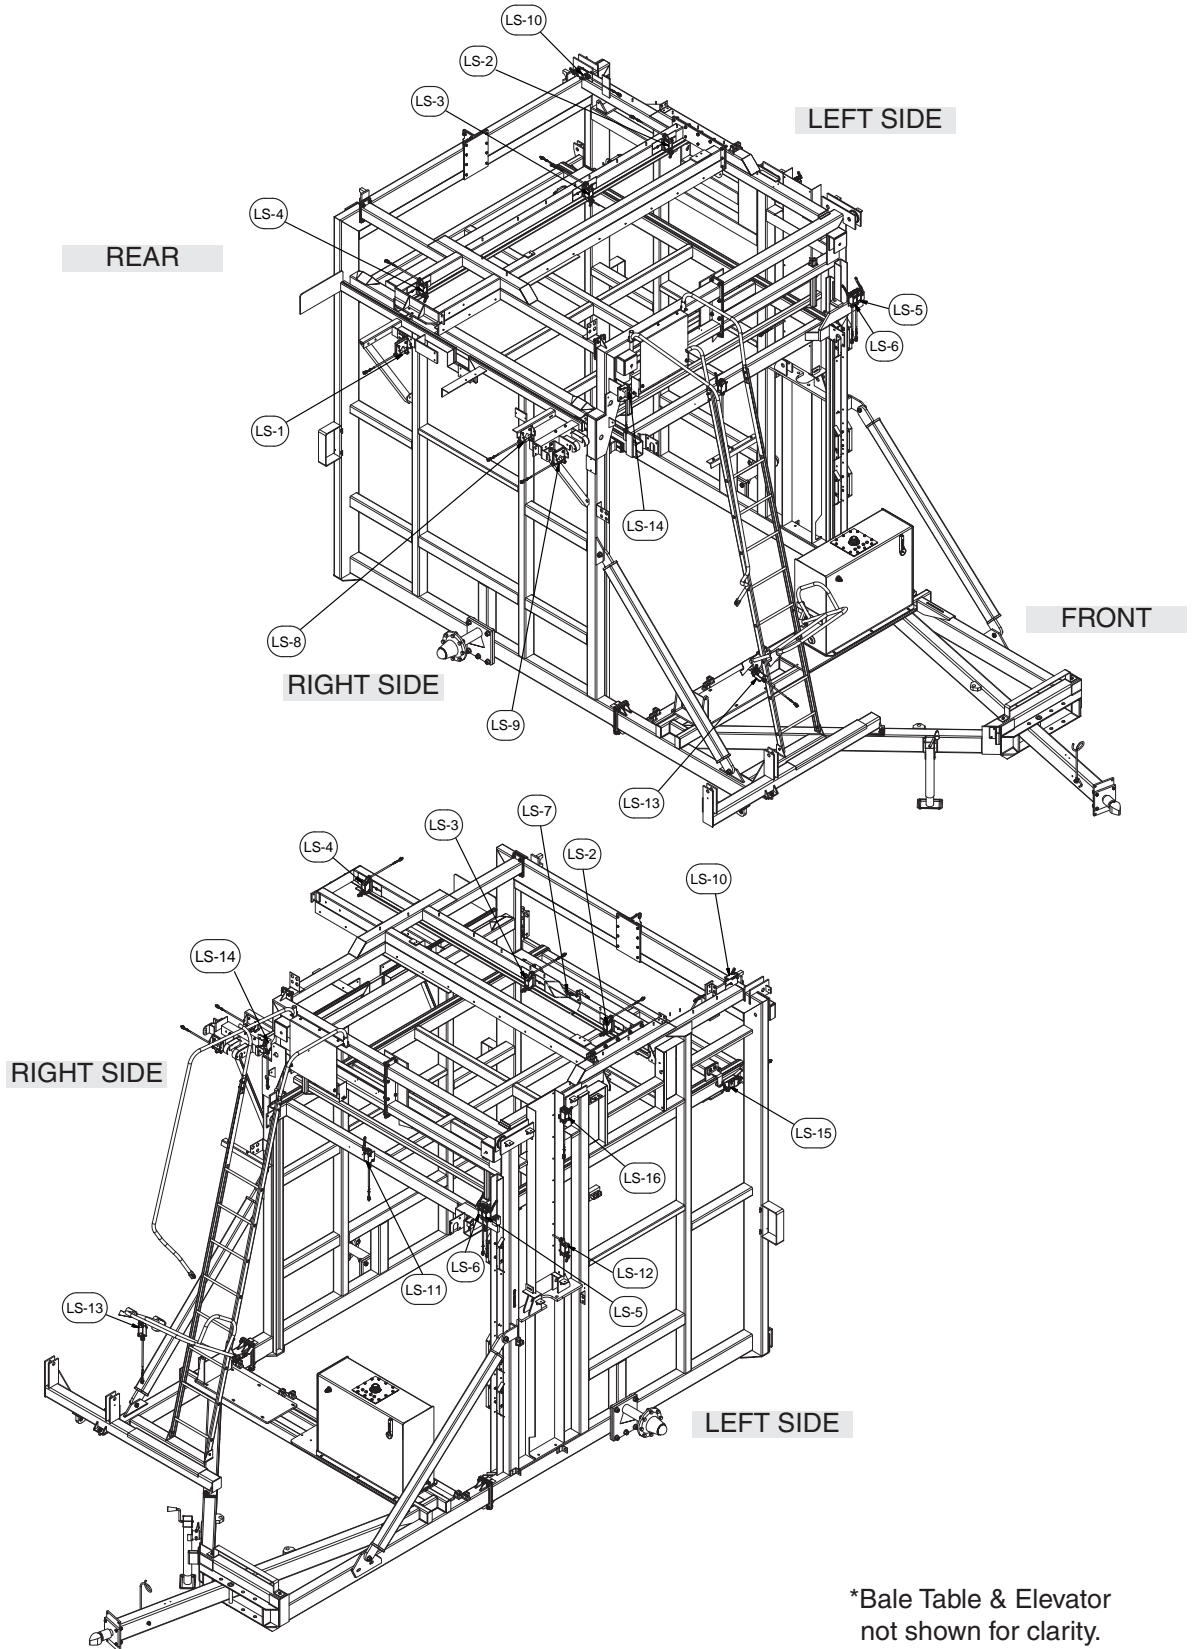

Figure 14 - Limit Switch Locations
**NOTE: See “Figure 14 - Limit Switch Locations” on page 25**
5. Lights 1 - 4 are used to indicate which limit switch is being tested. See Figure 18 for limit switch identification and Figure 14 for limit switch locations.